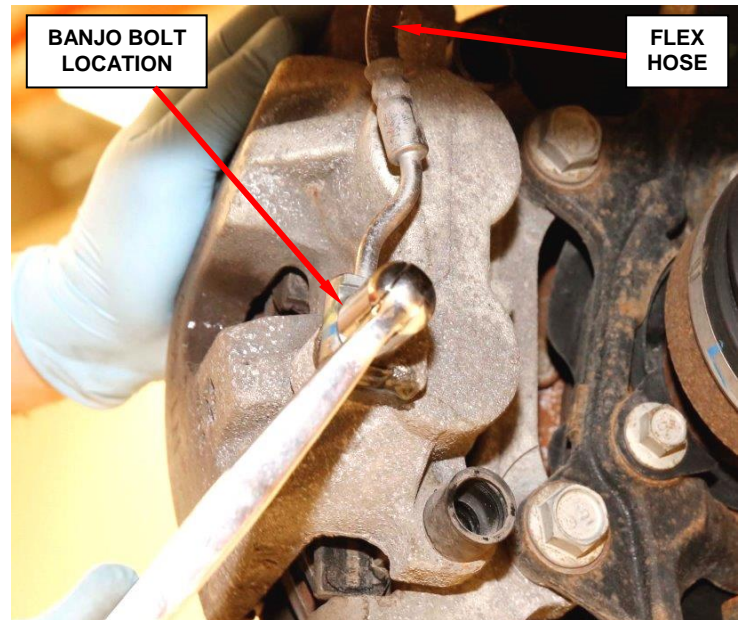

Figure 6 – Banjo Bolt
8. Remove the brake flex hose banjo bolt and copper washers. Save the banjo bolt and discard the original copper washers (Figure 6).